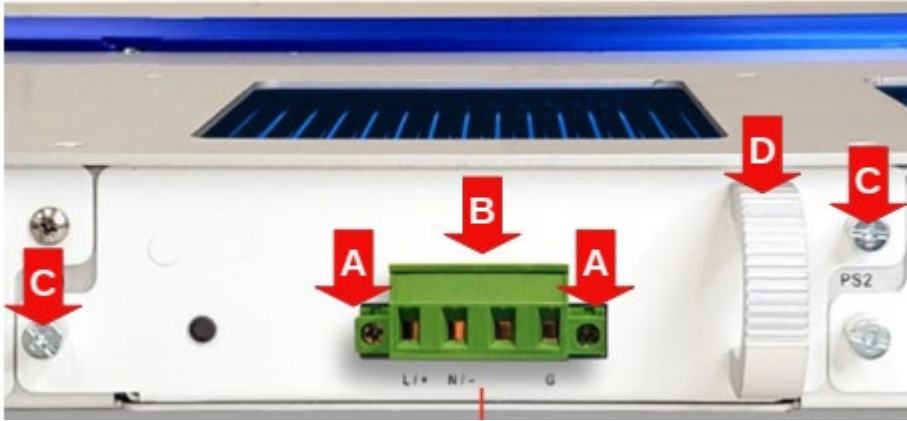

Figure 9-1 Power Supply Module
2. Use Phillips screwdriver and unscrew the connector's screws marked (A) on Figure 9-1.
3. Unplug the connector marked (B) in Figure 9-1.
4. Use your fingers and loose screws marked (C).
5. Grab bracket marked (D) and pull until the module is completely out.
7. Screw the thumb screws (C).
8. Insert connector (B)
9. Screw with a Phillips screwdriver screws (A)